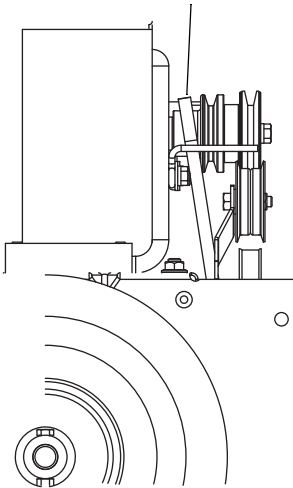

Figure 24
(Figure 24)
3. Push the traction drive belt off the engine pulley toward the engine as shown in Figure 24.
5. Place new traction drive belt on engine pulley between the engine and pulley groove as shown in Figure 24.